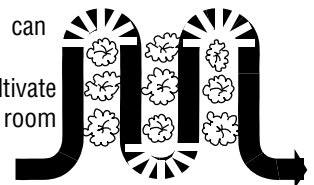

Fig. 4-9
- When cultivating (breaking up surface soil around plants to destroy weeds, see Fig. 4-9), a just the tines to dig only 1" to 2" deep. Using shallow tilling depths helps prevent injury to plants whose roots often grow close to the surface. If needed, lift up on the handlebars slightly to prevent the tines from digging too deeply. (Cultivating on a regular basis not only eliminates weeds, it also loosens and aerates the soil for better moisture absorption and faster plant growth.) Watering the garden area a few days prior to tilling will make tilling easier, as will letting the newly worked soil set for a day or two before making a final, deep tilling pass.
With planning, you can allow enough room between rows to cultivate (see Fig. 4-9). Leave room for the hood width, plus enough extra room for future plant growth.